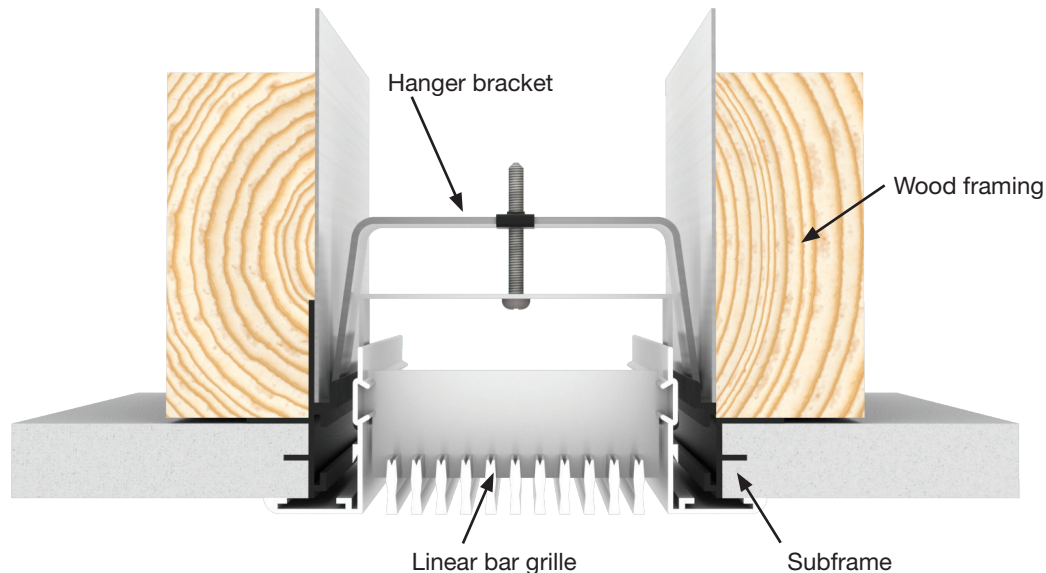

Figure 8 (Step 5B): Hanger Bracket Install into Subframe – Shown with Duct/Plenum (not required)
- B. Push all brackets up into the opening until all hanger brackets get caught on the subframe supports – see Figure 8.
- D. On long runs with multiple grille sections, the same procedure should be replicated above for all individual grilles with special care to use factory-supplied alignment splines – see Figure 8.